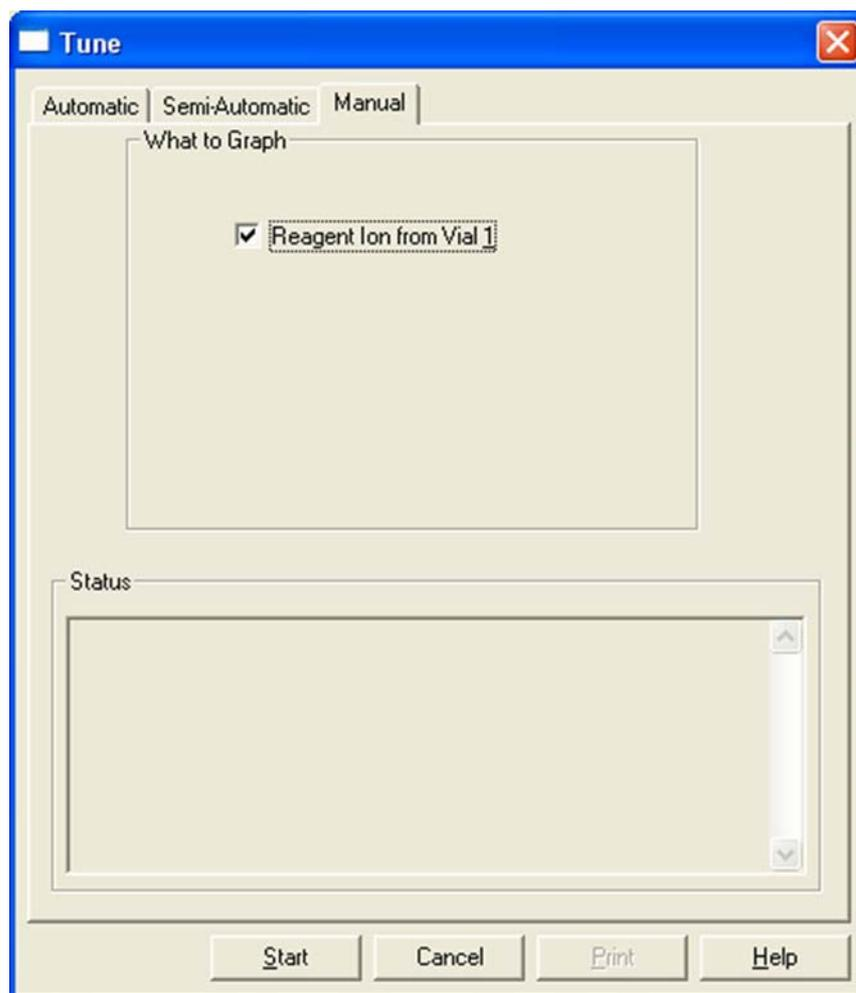

Figure 8-14. Reagent Ion Source Tune dialog box – Manual page
6. Click the **Manual** tab in the Tune dialog box if the Manual page is not already visible. (See Figure 8-14 on page 8-16.)